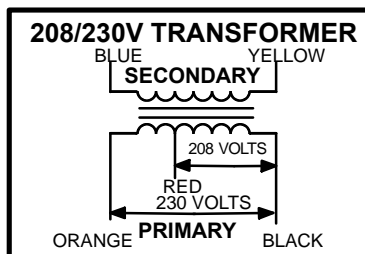

FIGURE 4
transformers use two primary voltage taps as shown in figure 4, while 460 (G) and 575 (J) voltage transformers use a single primary voltage tap.